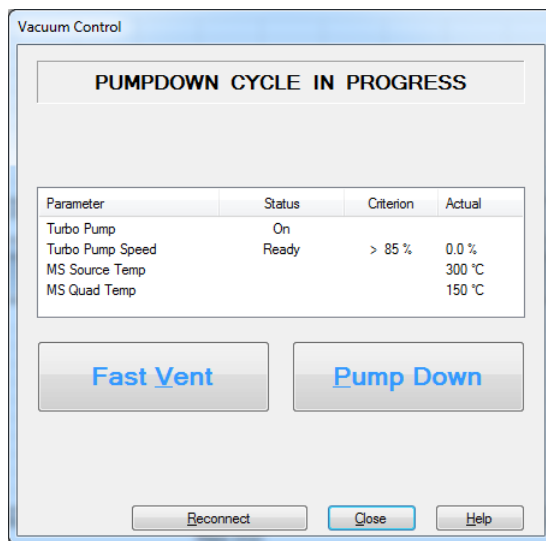

Figure 48 Vacuum Control dialog
- 10 In the **Instrument Control** view, from the Instrument menu, select **MS Vacuum Control** to display the **Vacuum Control** dialog. (See Figure 48.)